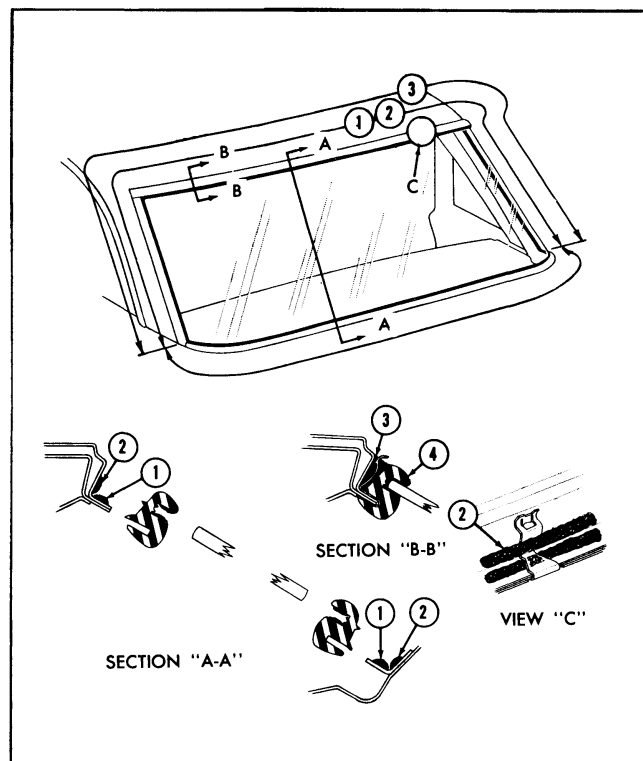

Fig. 15-3 Back Window Sealing
3. On styles using clip retained reveal moldings, check retaining clips and replace damaged or defective clips. Prior to installing clips, apply a continuous ribbon of medium-bodied sealer (approximately 1/4 inch thick) along the pinchweld and retaining flange (1 in Fig. 15-3) completely around the opening.
4. Apply a second continuous ribbon of medium-bodied sealer (approximately 1/4 inch thick) along outer wall of back window opening (2 in Fig. 15-3) completely around opening.
7. On styles with clip retained reveal moldings, apply sufficient medium-bodied sealer to fill void between rubber channel and body opening up sides and across top of window (3 in Fig. 15-3).
8. Using a pressure type applicator, apply an approved weatherstrip adhesive (black) between outer lip of rubber channel and glass (4 in Fig. 15-3) completely around rubber channel.